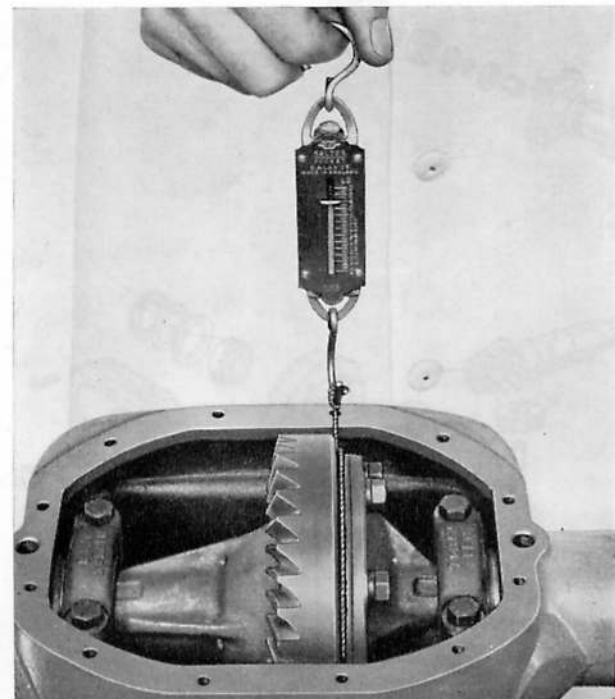

Fig. J.22. Checking differential side bearing pre-load
8. Check the bearing pre-load, using a spring balance in conjunction with a length of twine wound around the periphery of the differential case as shown in Fig. J.22.